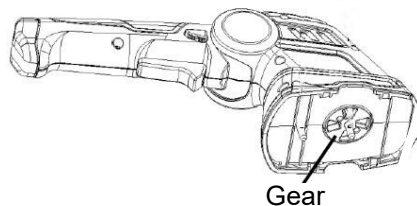

Fig. 10
2. Once you have removed the blade you will be able to see the toothed wheels of the gear unit (Fig. 10). Make sure that no dirt gets into the gear unit when you change the blade. To assemble, proceed in the reverse order.